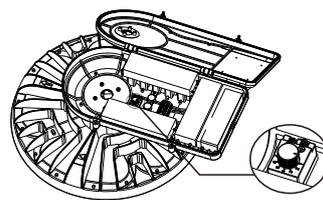

Figure 3
- For products with optional gear dimming function, the light output and input power of the lamp can be changed by shifting the knob of the dimmer, Gear 8 = full output. Gear 1 = minimum output. Optional = 25%, 40%, 50%, 60%, 70%, 80%, 90%, and 100%, Factory setting = "8" (Figure 3)